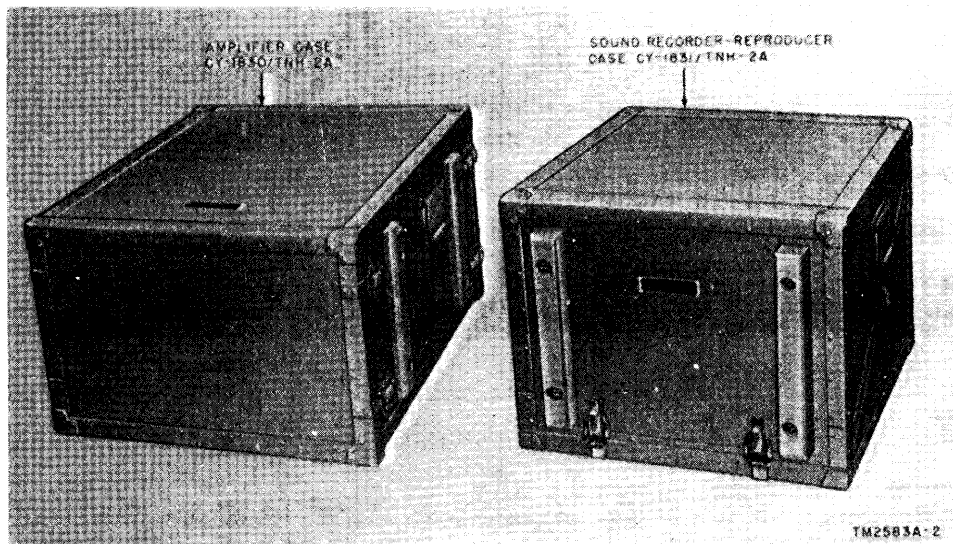

Figure 2. Sound Recorder-Reproducer Set AN/TNH-2A, carrying case.
*1831/TNH-2A* (fig. 2). This case is a gray, aluminum-clad, plywood case containing Recorder-Reproducer Subassembly RD-146/TNH-2A and Amplifier-Power Supply AM-1251/TNH. A door on the rear of the case provides access to the input power connector and fuses.